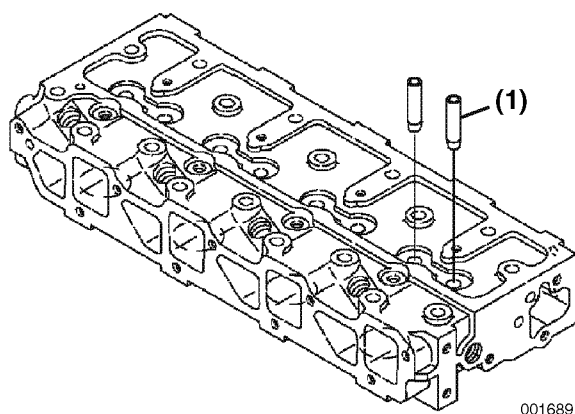

Figure 6-12
1. Using a drift pin and hammer, drive the valve guides (Figure 6-12, (1)) out of the cylinder head.